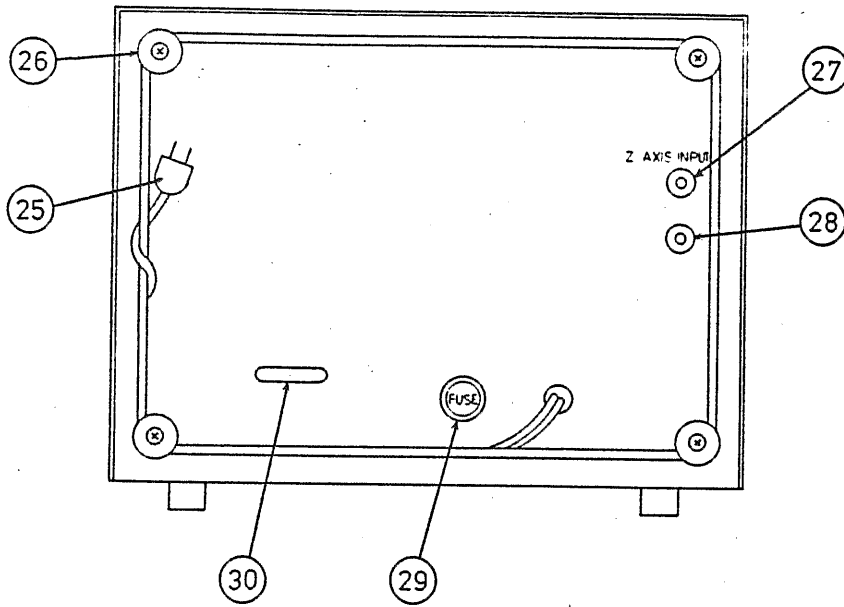

Fig. 2
②① ②② ②③	TRIG MODE AUTO NORM TV <input type="checkbox"/> <input type="checkbox"/> <input type="checkbox"/>	<p>Pushbutton switches for selection of trigger mode.</p> <p>AUTO ②③: When trigger signal is removed, trace is not blanked out but sweep runs in AUTO (FREE RUN) mode, thereby providing a convenient state for confirming existence/absence of input signal and checking of zero level. This mode is applicable to observation of repetitive signals of 50 Hz or over.</p> <p>NORM ②②: When trigger signal is removed, trace is blanked out and sweep is in STANDBY state. Used primarily for observation of signals lower than 50 Hz.</p> <p>TV ②①: TV sync separator circuit is connected to the trigger circuit. Being linked to TIME/DIV switch ①③, trigger circuit is automatically switched to TV·V or TV·H sync. signal. When no trigger signal is applied, sweep runs in AUTO (FREE RUN) mode.</p>
②④	CALIB 1 Vp-p	<p>Output terminal which provides a calibration voltage used for oscilloscope sensitivity adjustment and probe calibration. The calibration voltage is 1 Vp-p ($\pm 3\%$), positive-going square wave of about 1 kHz.</p>
3.2 Explanation of Rear Panel (See Fig. 2)